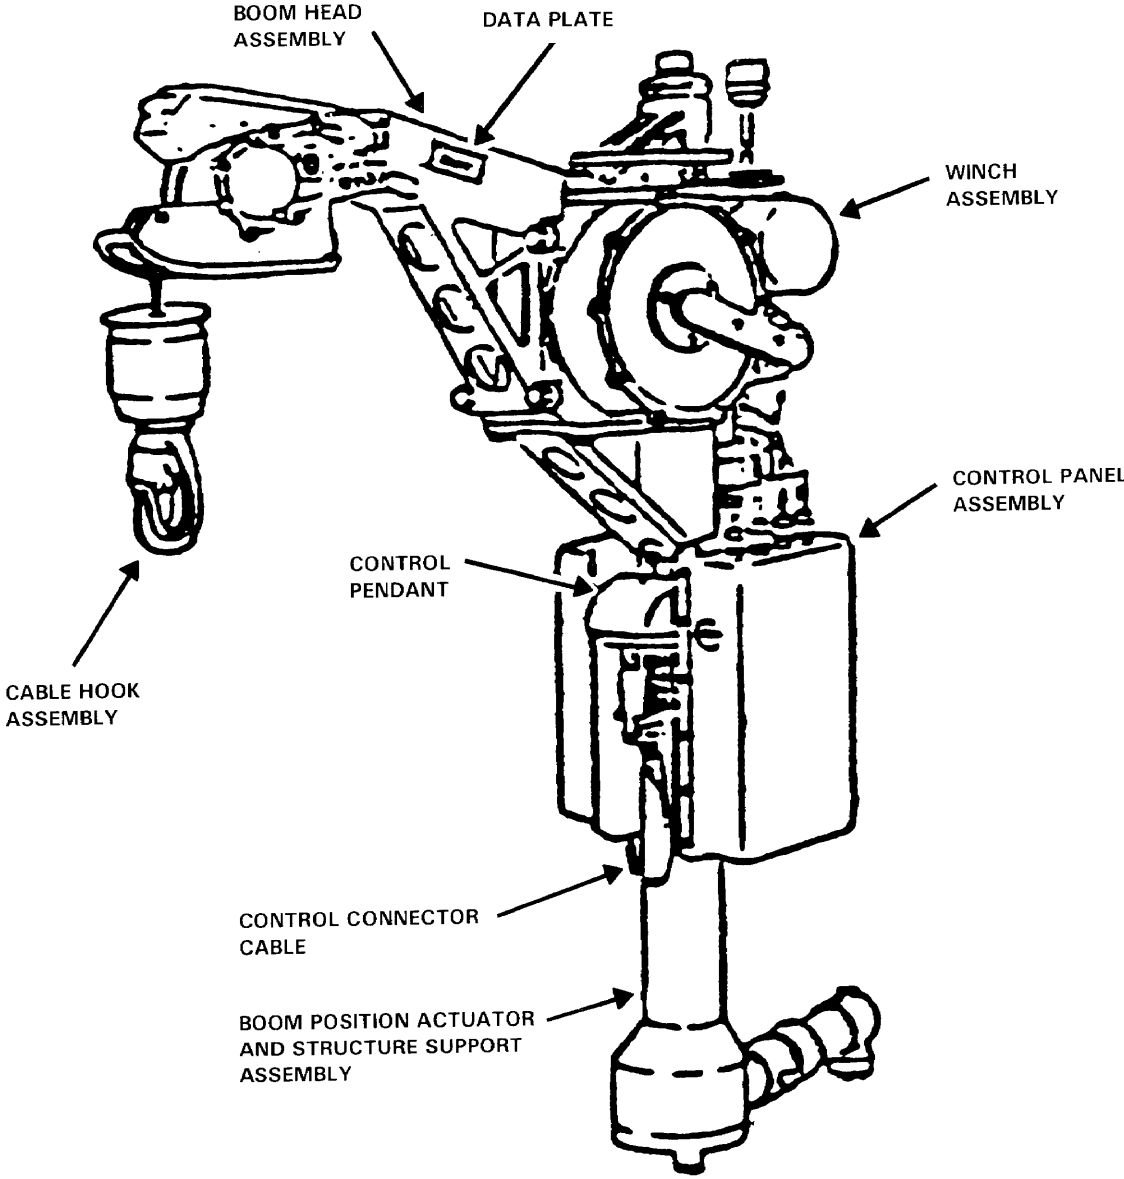

Figure I-1. The hoist system.
a. The hoist system consists of modular components (Figure I-1), which are electrically driven and controlled. A speed mode switch provides a selection of either slow speed (0-125 fpm) or fast speed (0-250 fpm). This switch is located on the back of the rescue hoist control panel assembly on the hoist support assembly. The hoist motor provides a selection from 125 or 250 fpm reel-in and reel-out drive of a 256-foot hoist cable. This motor is mounted on top of the pole. A fail safe mechanism limits the induced loading weight to the hoist to 1,200 pounds at all times. A circulating fan, which runs continuously, cools the hoist motor.